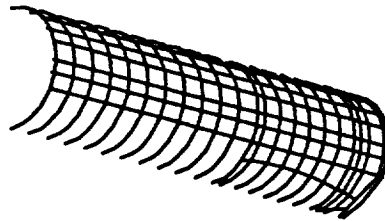

FIGURE C.35. Illustration of screen after step 18 of lesson 2.
18. Add longerons as shown in figure C.35.